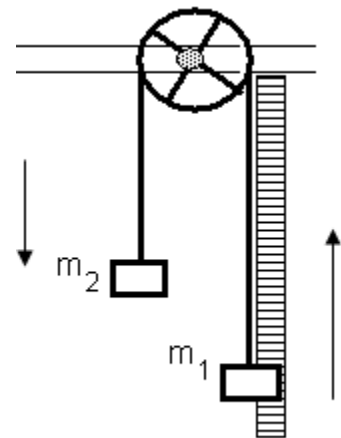

Figure 1
1. Use a length of string such that when one mass holder is on the table, the other is about 50 cm above (Does not have to be 50 cm). Make sure that one mass holder is directly in front of the vertical meter stick as in Figure 1.